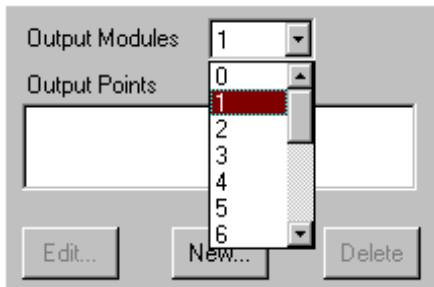

Figure 8. Assigning One Output Module to the Panel
2. In ACCESS NT, in the New or Edit APM dialog box, select 1 to represent the number of output modules added to the system (Figure 8). Output points 5-8 are now available. (Zero means that no output modules have been added to the panel.)